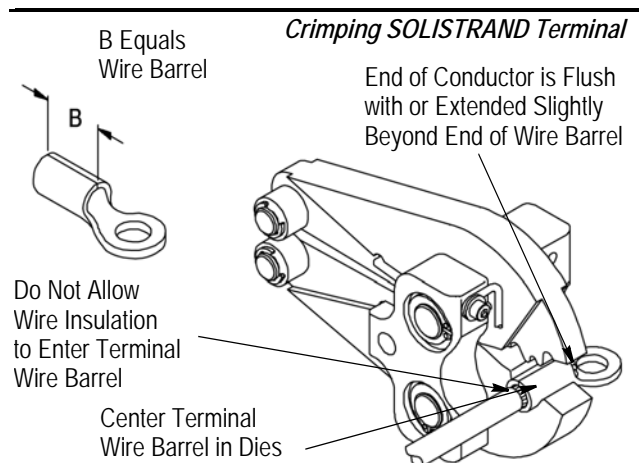
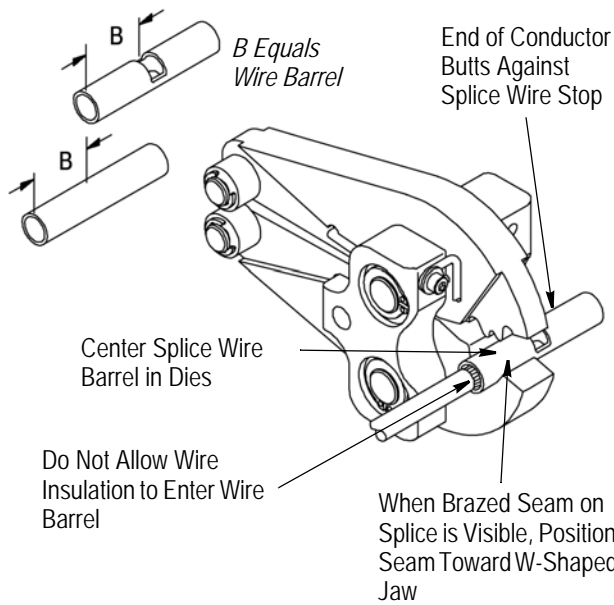

Figure 3
Figure 4
4. CRIMPING PROCEDURES (Figure 3, Figure 4, and Figure 5)
2. Open crimping jaws by squeezing the rollers simultaneously; then place the terminal or splice into the center of the appropriate crimping chamber. Use the correct crimp chamber for the specific wire size. Refer to Figures 3, 4, and 5.
4. Insert stripped wire, as shown in Figures 3, 4, and 5. DO NOT allow wire insulation to enter terminal or splice wire barrel.
NOTE *To crimp the other half of a butt splice, reposition it in the crimping jaws and follow the procedures in Steps 1 through 5. If the splice cannot be turned, rotate the tool head. See Figure 4.*